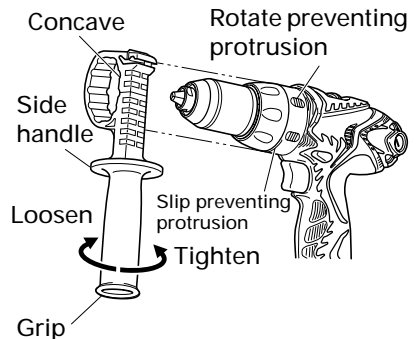

Fig. 19
- (1) Install the side handle so that the protrusions on the main unit and grooves on the side handle interlock. Tighten the grip after checking that the side handle is not riding on the slip prevention protrusion. (Fig. 19)
- (2) Loosen the grip to remove the side handle.